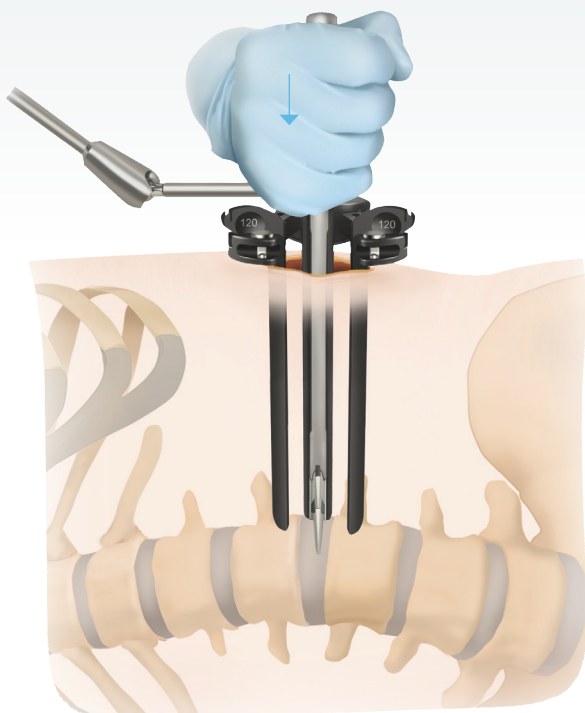

Figure 31
- Extend the intradiscal shim of the posterior blade into the intervertebral disc space from its initial position using the shim inserter (**Figure 31**).